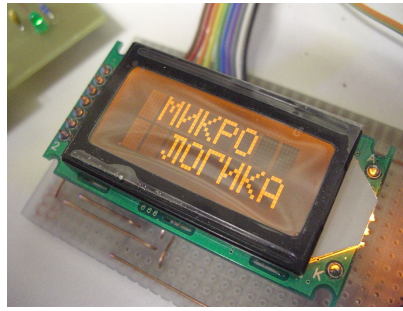

Figure 2: Example of HD44780-based display
6. Most low-cost applications will use an LCD controlled by a Hitachi HD44780U (or similar), as shown in fig. 2. Propose a finite state machine implementing the LCD interface, especially the initialization, with the 500Hz clock. You can assume it exists a `int_to_lcd` function converting an integer (between 0 and 9) into LCD compatible data and outputs ":" otherwise. *This question is extra hard and requires access to the documentation of the HD44780. We suggest you begin with schematics and diagrams before writing the VHDL implementation.*